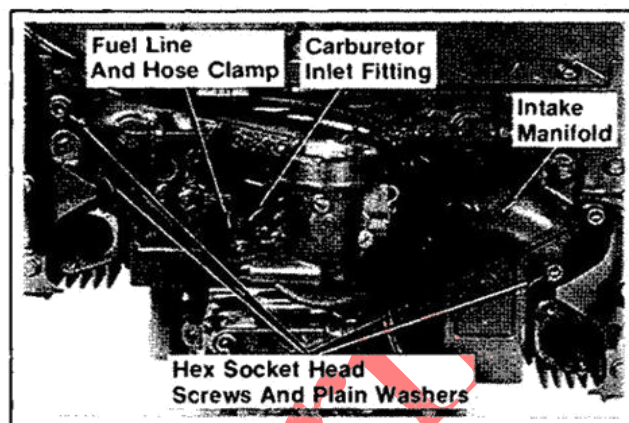

Figure 9-8. Removing Intake Manifold With Carburetor.
4. Loosen the hose clamp and remove fuel line from the carburetor inlet fitting. Refer to Figure 9-8.